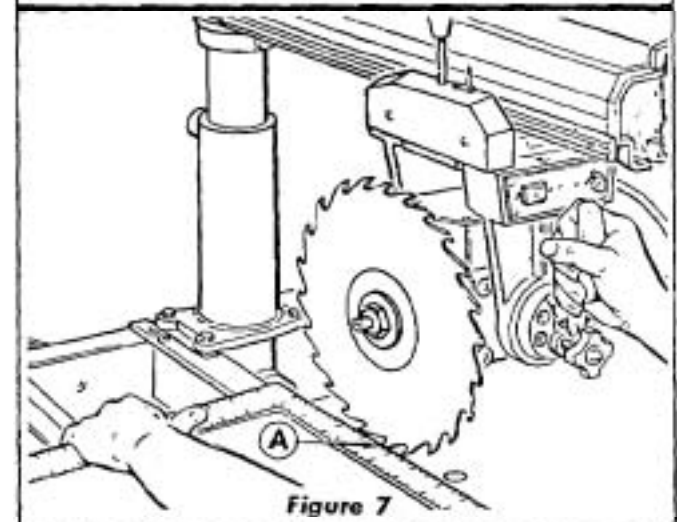

Figure 7
- Place a framing square on the table as shown in figure 7 and position the saw and square until the leg of the square just contacts a tooth of the saw blade. (Position "A", figure 7.) Mark this tooth with crayon or chalk.
- If saw tooth ("A", figure 7) moves away from the square when moving the blade from the rear toward the front of the table, tap the right-hand front edge of the table.
- If the saw tooth ("A", figure 7) moves into the square when moving saw from the rear to the front of saw table, tap the left-hand front edge of table.
- d. Move radial arm slightly in the proper direction to make saw tooth ("A", figure 7) follow edge of square when the saw blade is moved in and out in a "cross-cut" manner.